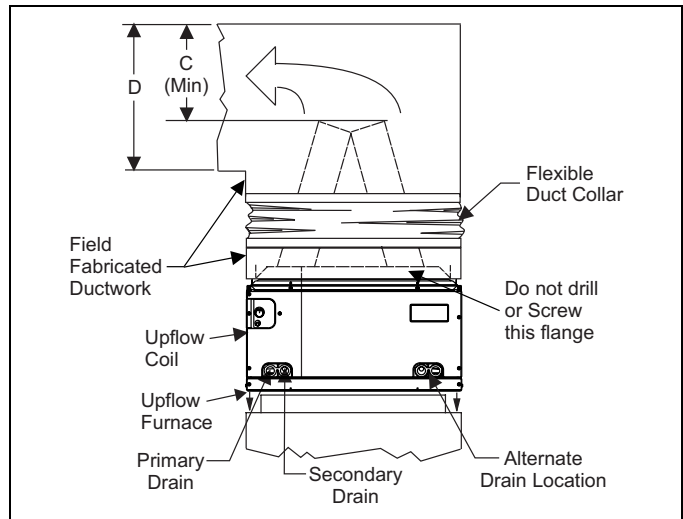

FIGURE 12: PC Series Upflow Coil Installation
1. Position the coil casing over the furnace opening as shown in Figure 12.
Do not drill any holes or drive any screws into the front duct flange on the coil in order to prevent damaging coil tubing. See Figure 12.
NOTE: Dimension "C" should be at least 2/3 of dimension "D". See Figure 12.